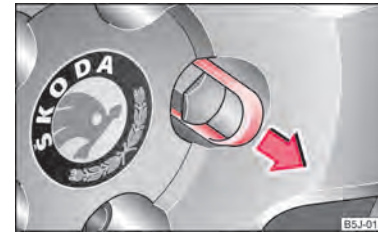

Fig. 141 Changing a wheel: Pull off cap from the wheel bolt
- Pull the cap off with the **plastic clip** ⇒ fig. 141.